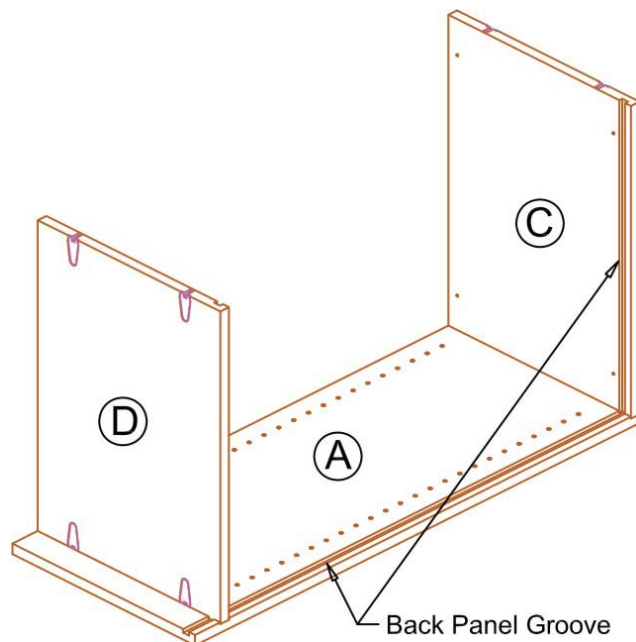

Figure 3
4. Set bottom panel D into slot in side panel A with CAM fitting facing outward-making sure panel grooves are aligned as shown in **(Figure 3)**. (Tighten CAM fittings around Connector studs by turning clockwise 90 degrees.)
5. Set top panel C into slot on top of side panel A with CAM fittings facing top of cabinet. Make sure grooves are aligned as shown in **(Figure 3)**. Tighten CAM fittings around the connector studs by turning clockwise 90 degrees.